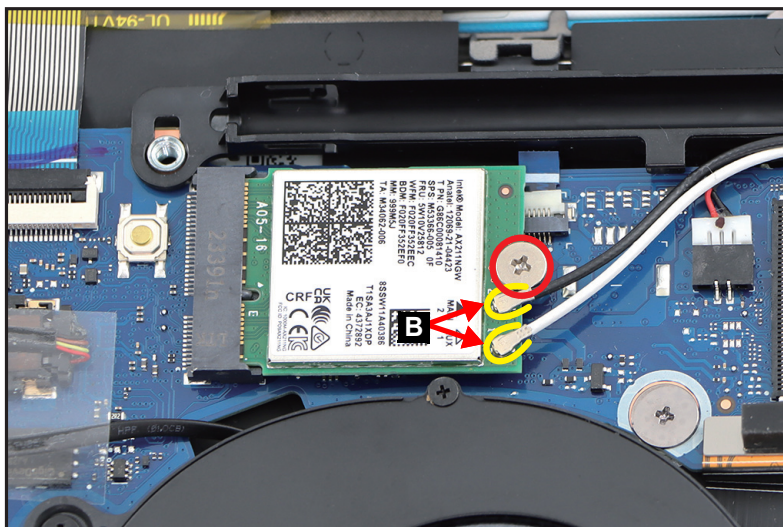

Figure 1-18. WLAN Module Removal
2. Disconnect the WLAN antennas cables from the WLAN module connectors (B) (Figure 1-18).
3. Remove one (1) screw securing the WLAN module in place (Figure 1-18).